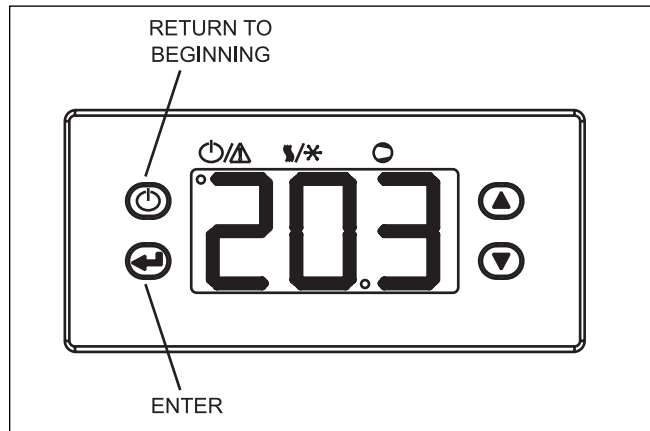

Figure 8. Pool Heater Controller.
Figure 8 identifies the control buttons.
The Pool Heater Temperature Control face contains an LCD screen and four (4) buttons (see Figure 8). The LCD screen will display the pool loop return temperature during normal operation. When the control is first powered up, it displays $\square\square\square$. It then displays the temperature at the pool loop sensor. After the temperature is displayed, the current settings (parameters) may be viewed. To scroll through the parameters, press the down arrow button to advance to the next parameter.